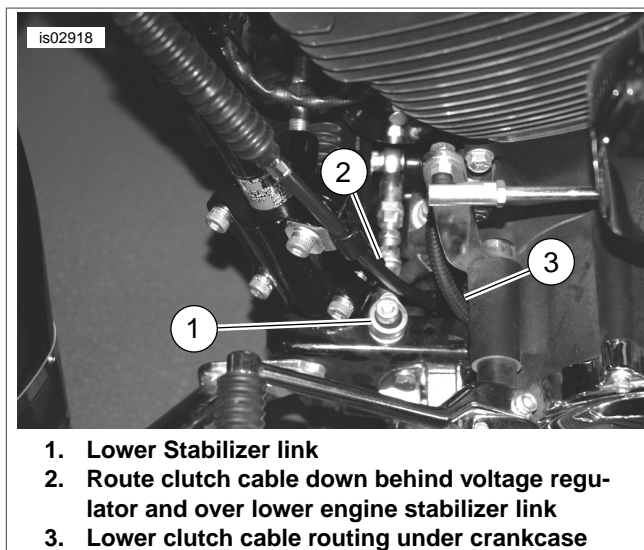

Figure 2. Revised Lower Clutch Cable Routing
4. See Figure 2 and Figure 3. Continue to route cable down behind regulator, over engine stabilizer link and diagonally under crankcase, over the electrical caddy, and to clutch release cover on right side of transmission.